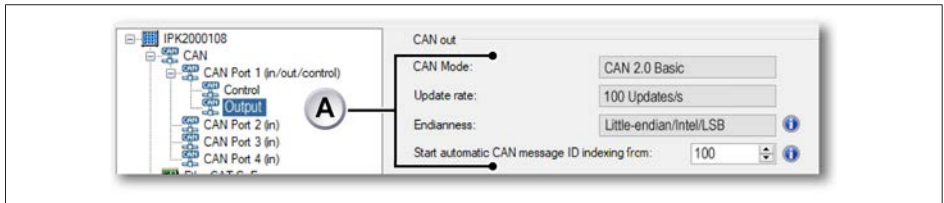

Fig. 12.17 CAN out settings
- Apply these settings to make the CAN output settings available (see Fig. 12.17)